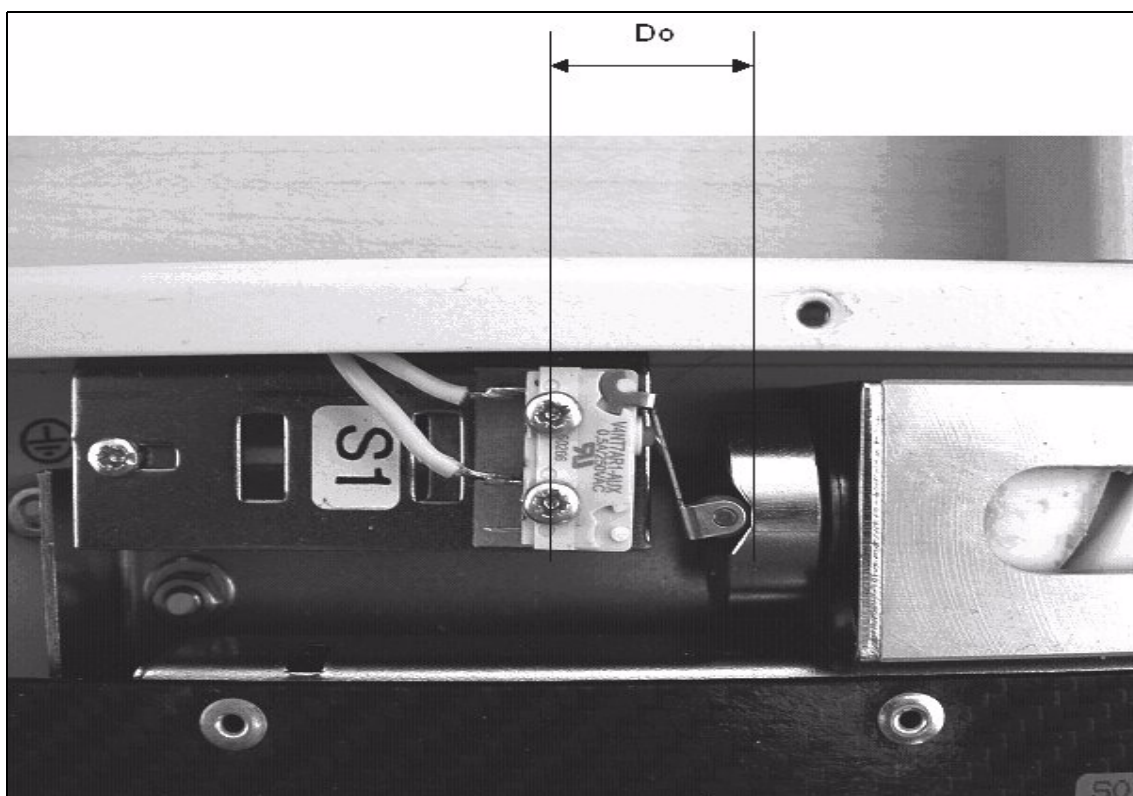

Fig. 4
- In order to prepare for mechanical adjustment tighten all the three fixing bolts first only lightly. Proceed according to Figure 4.